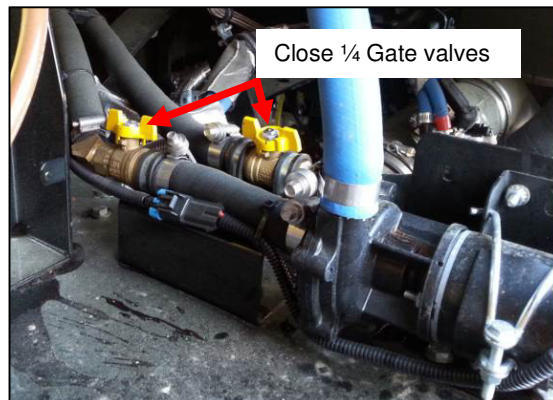

Figure 1, 1/4 Turn Valve Location
- 2) Close the ¼ turn gate valves in the engine compartment. See **Figure 1**.